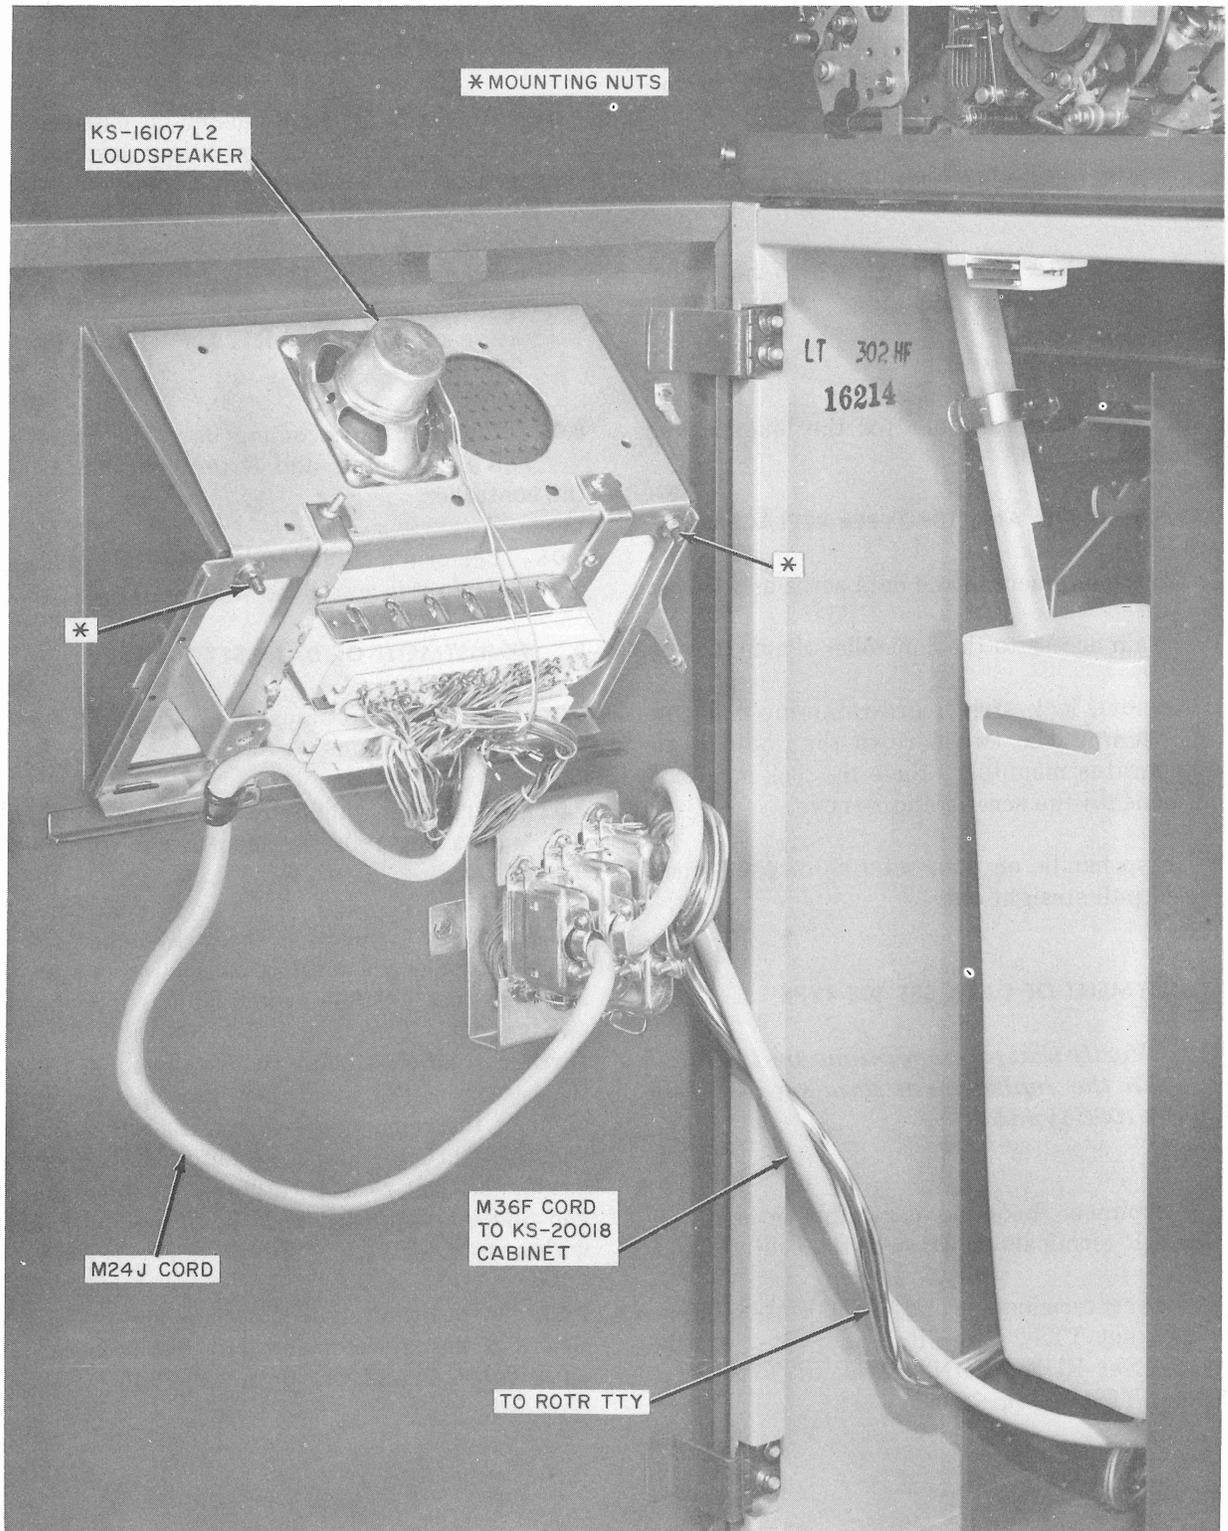

Fig. 9—DAS 804R3 Mounted in Door of 35 ROTR
**6.01** Maintenance of DAS 804R3 is limited to the replacement of lamps, keys, cord, and/or loudspeaker (Fig. 9).
- (2) Loosen the two screws on the loudspeaker which connect the YEL-BL and YEL-OR conductors to the loudspeaker. Remove spade tips from the loudspeaker.
- (3) Remove the two mounting nuts which hold DAS 804R3 to the door (Fig. 9).
- (4) Remove the four screws which hold the loudspeaker to the mounting plate assembly.
- (5) Remove loudspeaker.
- (6) Reverse the procedure for the loudspeaker to be installed.